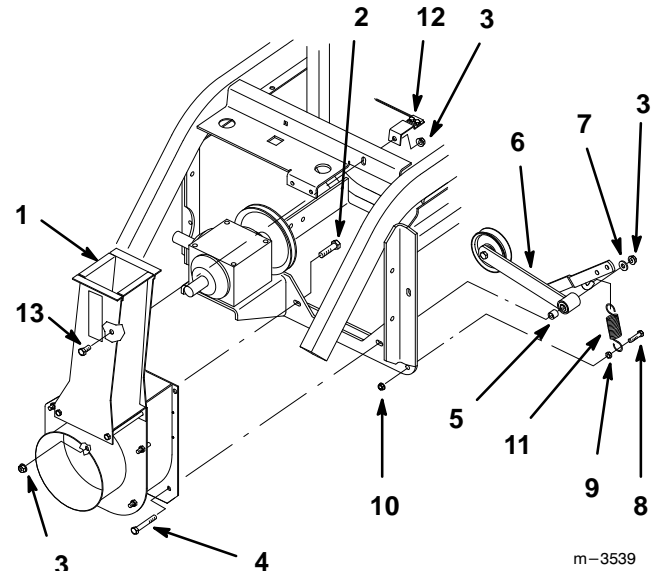

Figure 6
5. Slide blower\chute assembly up from bottom of the machine and place against traction unit frame (Fig. 6).
7. Install 3/8–16 x 1” (25 mm) carriage bolt in lower right hole of rear blower flange. Secure with a 3/8–16 flange locknut (Fig. 6).
8. Install 3/8–16 x 2-3/4” (70 mm) bolt through lower left hole of blower rear flange (Fig. 6).
9. Slide spacer, idler assembly and 3/8” (9.5 mm) washer onto bolt and secure with 3/8–16 flange locknut (Fig. 6).
10. Thread 5/16–18 nut onto 5/16–18 x 1-1/4” (32 mm) spring mount bolt and place into lower frame hole. Secure with 5/16–18 locknut (Fig. 6).
11. Hook spring over bolt and stretch to hook on arm of idler assembly (Fig. 6).
12. Hold switch bracket assembly to back side of frame cross member. Insert 3/8–16 x 3/4” (19 mm) bolt, from inside impeller chute, through chute, frame and switch bracket. Secure with 3/8–16 locknut (Fig. 6).